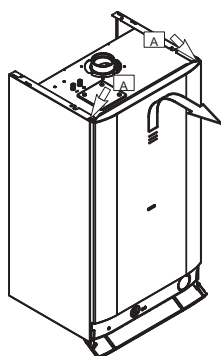

Figure 17.1
- Loosen the three screws A (Fig. 17.1)